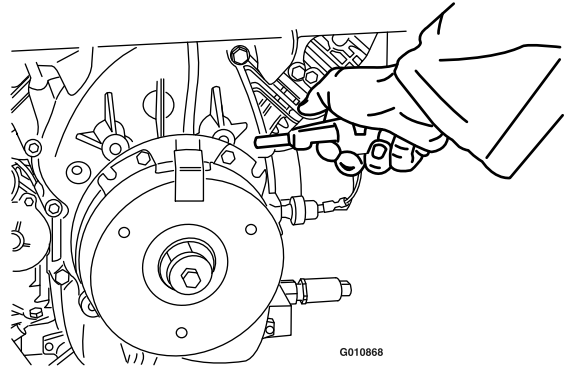

Figure 69
2. Using an air compressor, blow out any debris from under the brake pole and around the brake spacers (Figure 69).